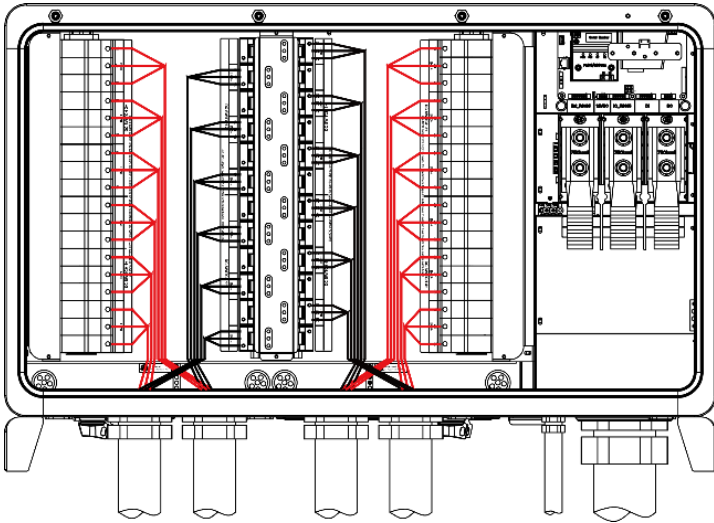
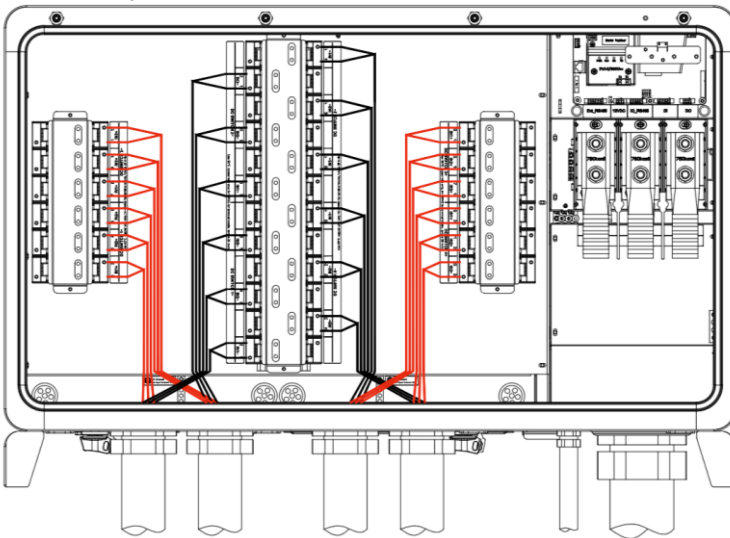

Figure 4-10a Connect the DC cable to fuse holder
Figure 4-10b Connect the DC cable to DC terminal
2. Connect the DC cables to the fuse holders of 36 input inverter as shown in Figure 4-10a; or connect to the DC terminals of 24 input inverter as shown in Figure 4-10b, and then tighten the screws.